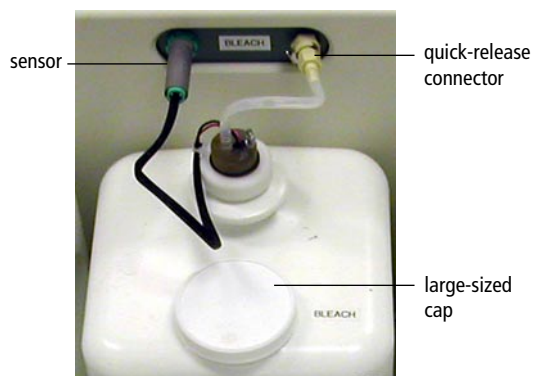

Figure 4-2 Fluidics container lines
- 1 (Optional) Disconnect the container's sensor and quick-release connector if you need to move the container (Figure 4-2).
- 2 Remove the large-sized cap from the container (Figure 4-2).
Connect the lines if they were disconnected in step 1; see Figure 4-2.